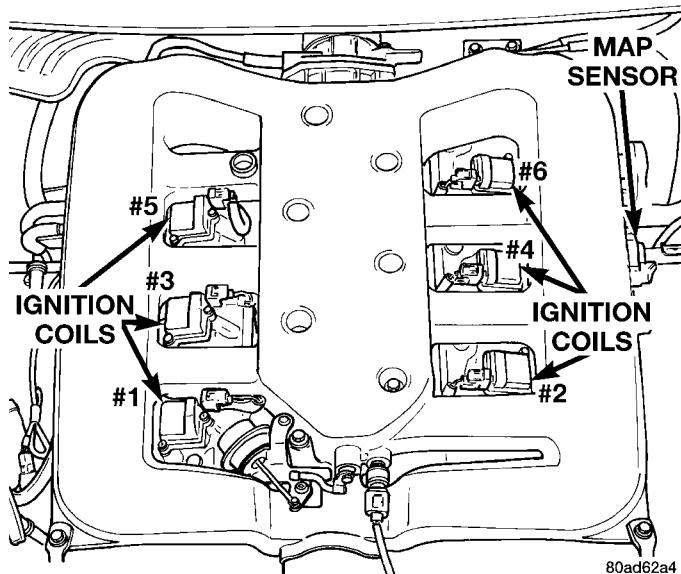

Fig. 23 Ignition Coils
(1) Remove air cleaner assembly.
(2) Remove upper intake manifold. (Refer to 9 - ENGINE/MANIFOLDS/INTAKE MANIFOLD - REMOVAL)
(3) Cover lower intake manifold with a suitable cover during service.
(4) Disconnect electrical connectors and remove ignition coils (Fig. 23).
- (6) Install ignition coils and connect all electrical connectors (Fig. 23).
- (7) Install upper intake manifold. (Refer to 9 - ENGINE/MANIFOLDS/INTAKE MANIFOLD - INSTALLATION)
- (8) Install air cleaner assembly.